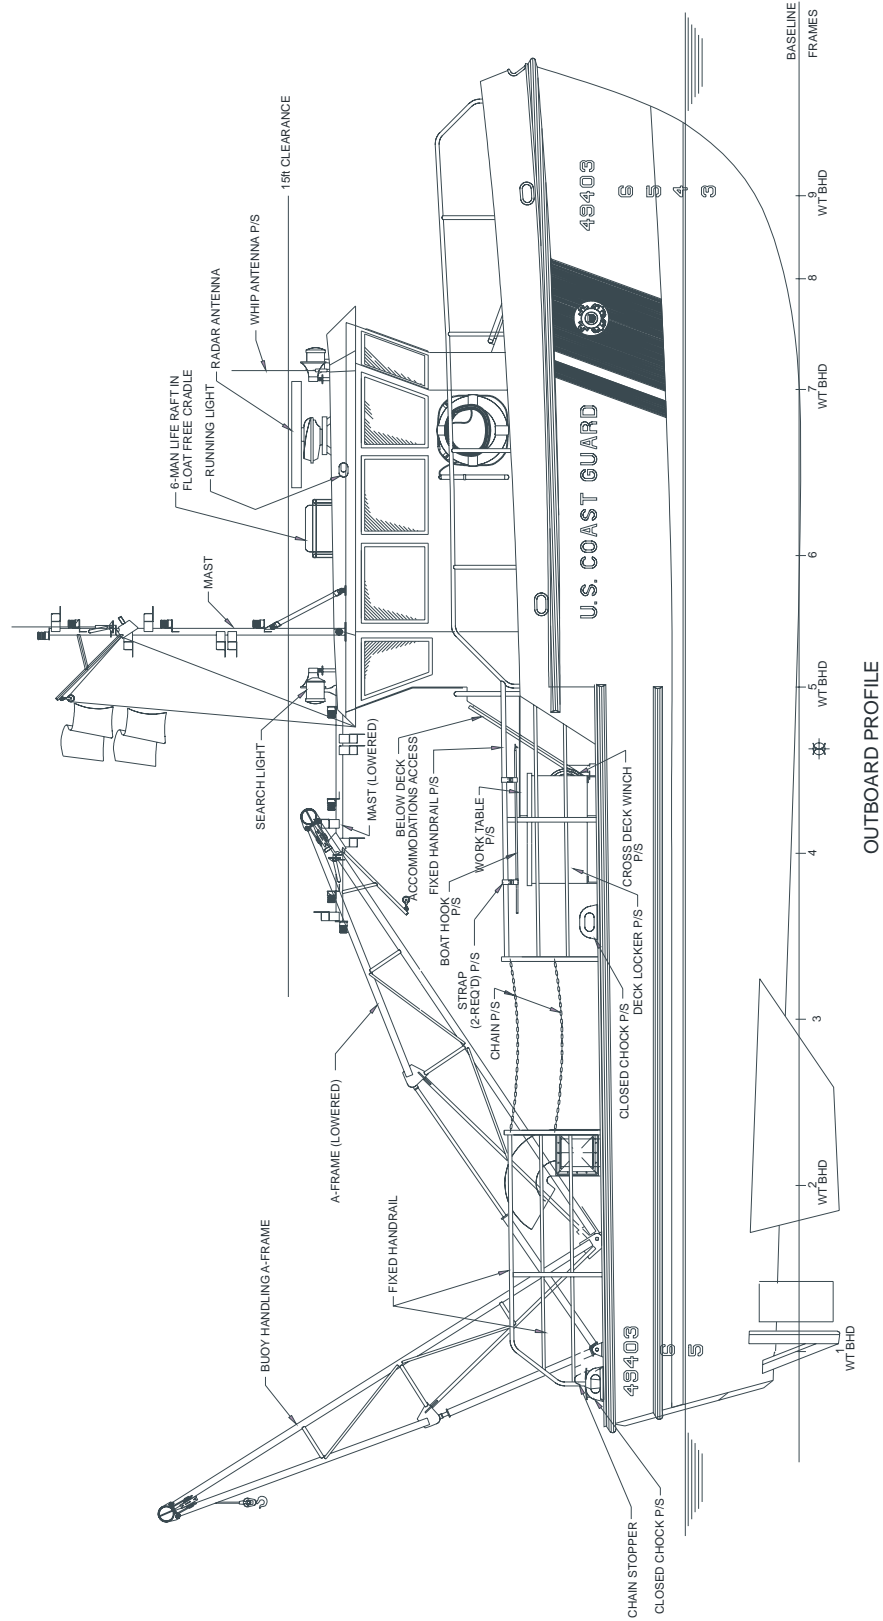

Figure 2-1
A.1. Design	The Boat Engineering Branch of the USCG Engineering Logistics Center designed the 49' BUSL (figure 2-1).